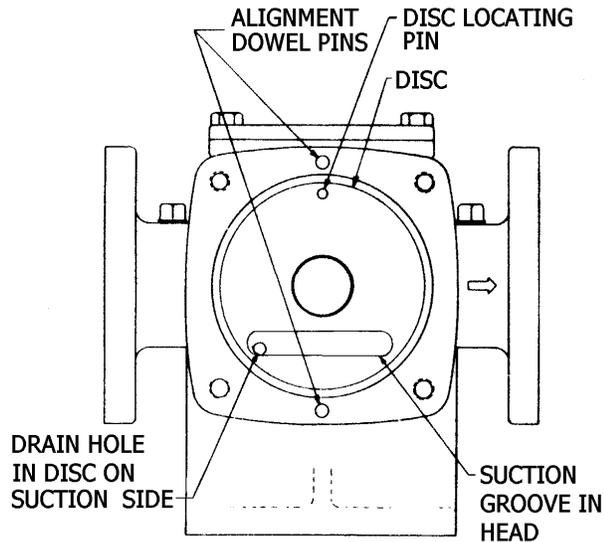

Figure 8 – Hole in Disc
3. Place the outboard disc (71) and seal ring (72) on the cylinder (12) so that the hole in the disc will be toward the INTAKE side of the pump. See Fig. 8.
4. Place the outboard head (23) on the cylinder (12) with the suction groove toward the bottom, using the dowel pin (25A) for alignment. See Figure 8.
- a. Model SNPJ2.5: Place the O-rings (72A and 72B) and the steam jacket (59) on the head.
- c. Secure the bearing cover (27) and seal ring (26) to the head with the four capscrews (28).
6. Place the inboard disc (71) and seal ring (72) on the cylinder (12) so that the hole in the disc will be toward the INTAKE side of the pump. See Fig. 8.
7. Place the inboard head over the shaft and against the cylinder (12) with the suction groove toward the bottom, using the dowel pin (25A) for alignment. See Figure 8.